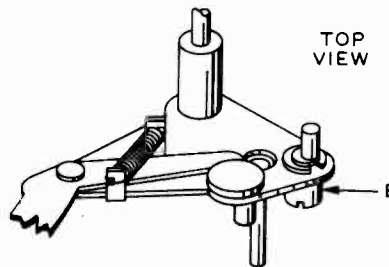

Fig. 40
1. With the mechanism out of cycle and the clamp screw (G) loose, place pickup arm on the rest and tighten clamp screw enough to prevent the clamp from slipping on the shaft.
2. Set the landing adjustment stud (B) as shown (mid-adjustment). (See Figs. 40, 41.)